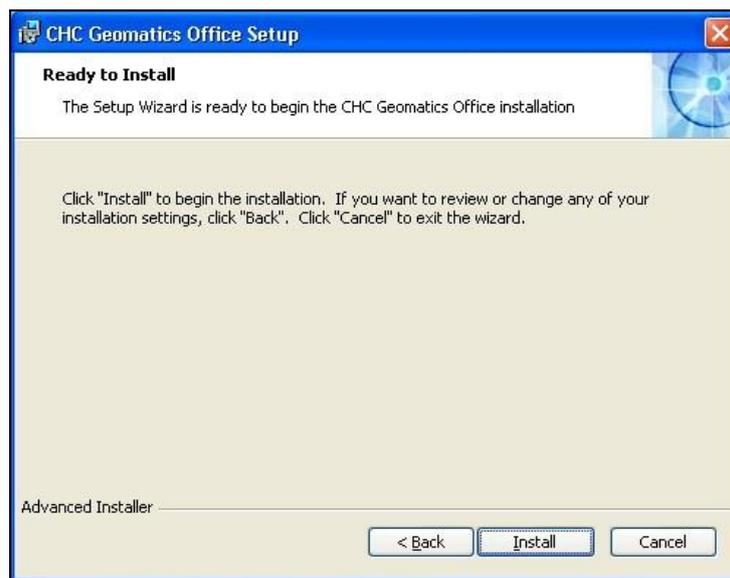

Figure 10-3 Ready for Installation
- Click **Browse** button for choosing the Path for installation and click **Next** button to continue installation, the Figure10-3 dialog will show up.